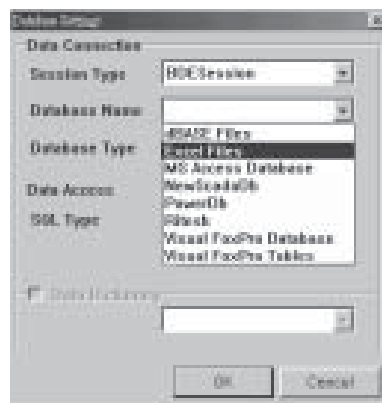

Fig. 8-3 Select the Database Original
1. Select Database Original: Click the page key 'Data' and then select 'File | Data Settings'. Then carry out the selection as in Fig. 8-3.